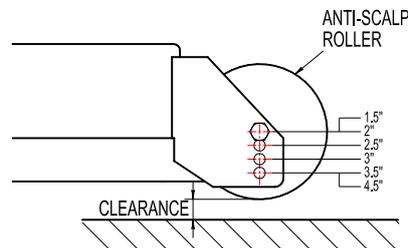

FIG 7
- a) Adjust anti-scalp rollers for Normal Operating Conditions. Stop engine, wait for all moving parts to stop, and remove key. Place rollers in one of the positions shown in Figure 7. Rollers will maintain 3/4" (19mm) clearance to the ground to minimize gouging and roller wear or damage.